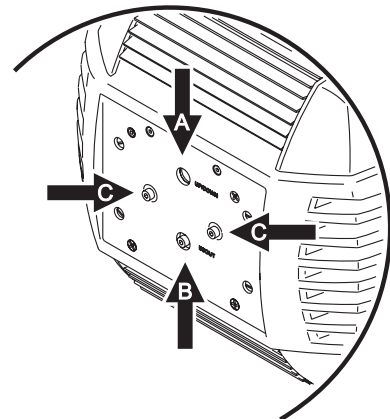

Figure 5: Lamp adjustment screws
- See Figure 5. Center the hot spot vertically using the top Allen-head adjustment screw (A) in the center of the rear plate. Center the hot spot horizontally using the side-to-side adjustment screws (C).
- If there is an excessive hot spot, turn the bottom adjustment screw (B) counterclockwise until the light is evenly distributed. If the light is brighter around the edge than it is in the center, or if light output is low, turn the bottom adjustment screw (B) clockwise until the light is bright and evenly distributed.